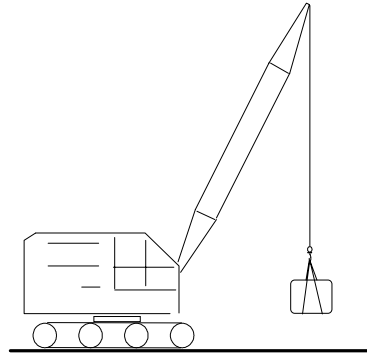

Figure 7
8. Lift the test weight off the ground (Fig. 7).